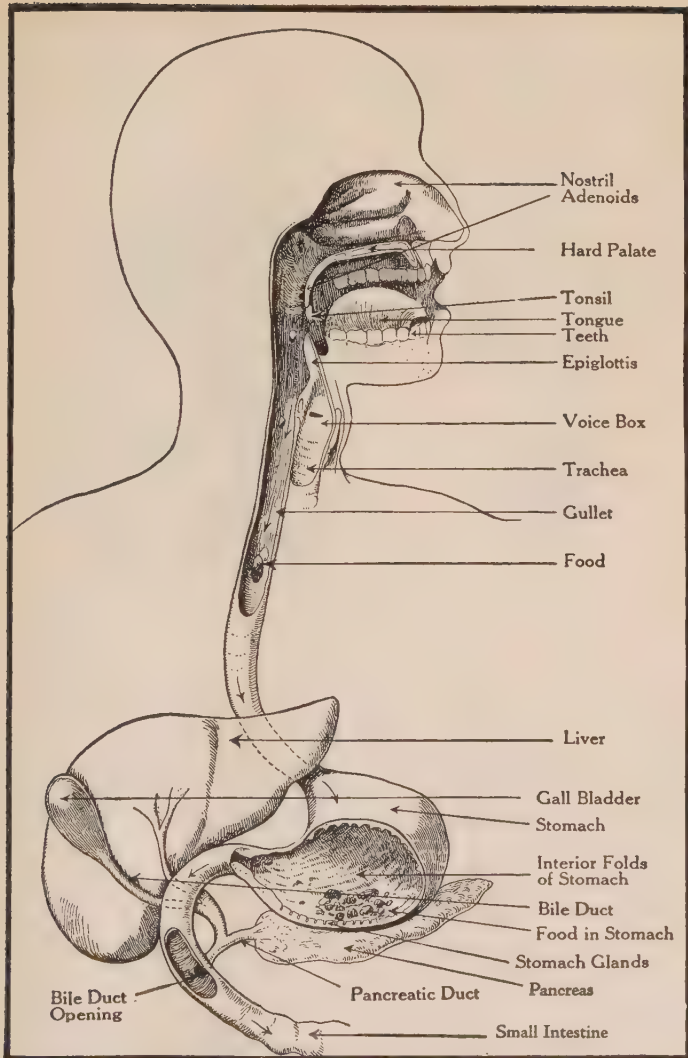

FIGURE 287. — MOUTH, GULLET, STOMACH, AND INTESTINES.
b. *The Stomach.* Once the food is in the stomach (Fig. 287), it is churned about by the gentle motions of the stomach walls, which are composed of three layers of muscles, all working in different directions. There are glands in the walls of the stomach, which secrete a juice called the *gastric* (gās'trīk) juice, composed of water, pepsin, and .2% of hy-